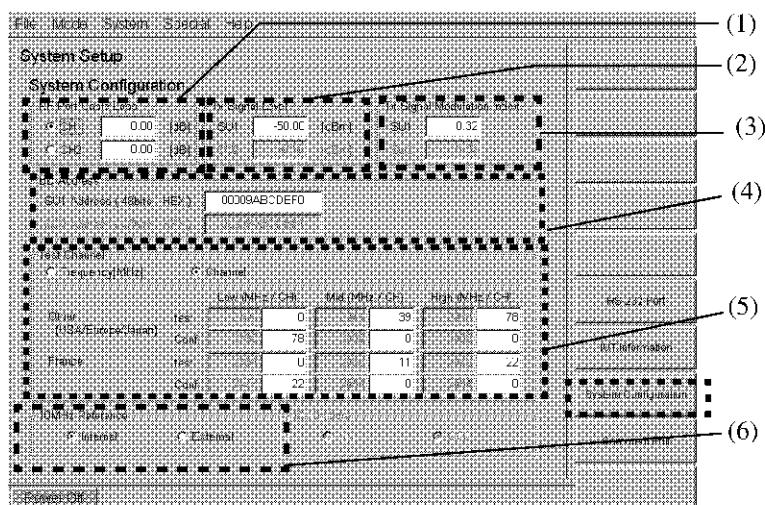

Figure 2-34 System Configuration Setting
This section describes the System Configuration settings ((1) to (6) in Figure 2-34).
- Enter the cable loss when the IUT is connected to the CH1 or CH2. ((1) in Figure 2-34.)
2. Set the RF transmission output level of the R4870 system. ((2) in Figure 2-34.)
3. Set the modulation index of the R4870 built-in communication unit. ((3) in Figure 2-34.)
4. Set the BD Address of the R4870 built-in communication unit. ((4) in Figure 2-34.)
Use the external keyboard to enter the address. ((3) in Figure 2-34.)
5. Set the frequency or channel conditions of the RF communication test. (See (5) in Figure 2-34.)
6. Select the reference frequency source (10 MHz). ((6) in Figure 2-34.)